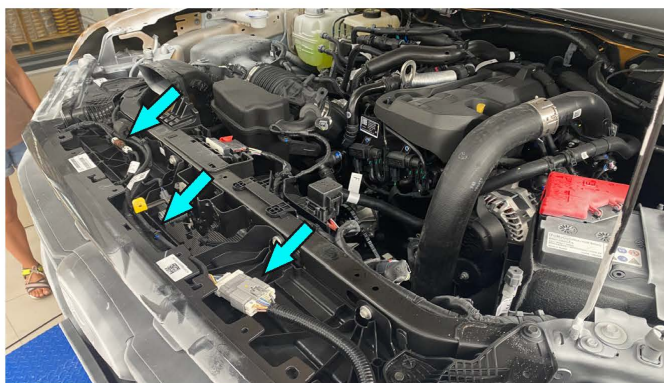

Fig.63
63. Connect OE wirings back (fig.63).